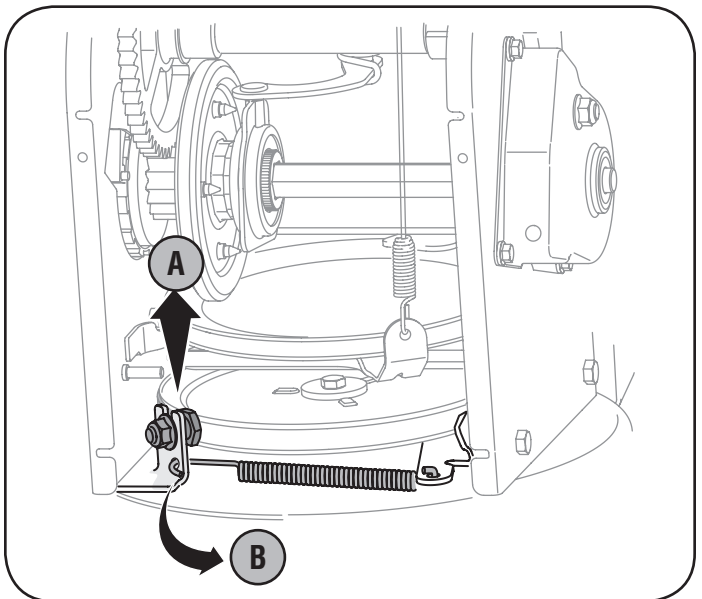

Figure 33
6. Remove the belt as follows. Refer to Figure 33.